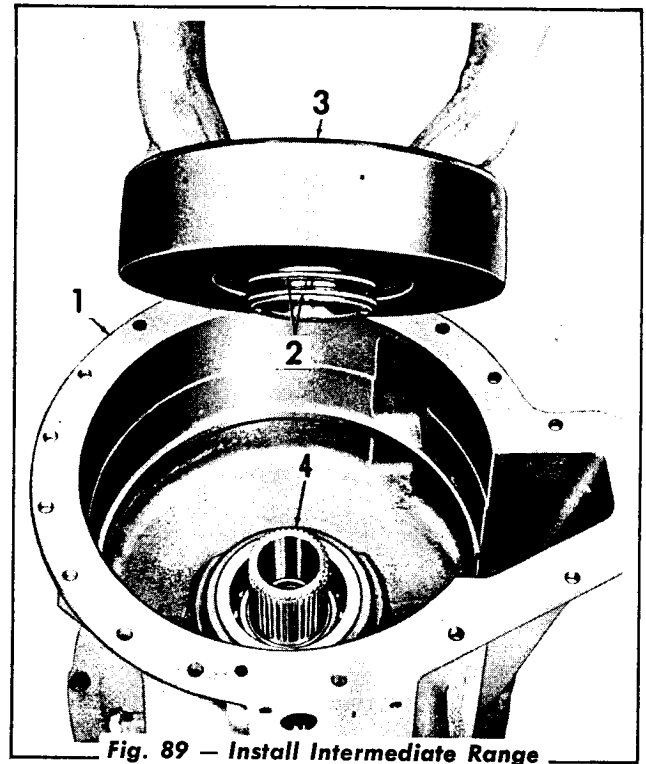

Fig. 89 — Install Intermediate Range Clutch Housing
5. Turn the transmission housing (Fig. 89) over to rest on its rear surface. Install and grease the hook type seal rings. Install the inter-